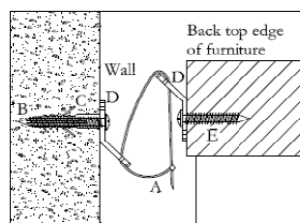

Figure.3
2. **MOUNTING THE WALL-SIDE BRACKET:** Position the wall side bracket so that it will be adjacent to the furniture-side bracket when the furniture item is moved to its final position. The wall-side bracket should be about ONE inch lower than the furniture-side bracket (See Figure 3). Mark the location on the wall & create the appropriate sized hole in the wall. Insert the plastic screw anchor & secure the bracket using the long screw.